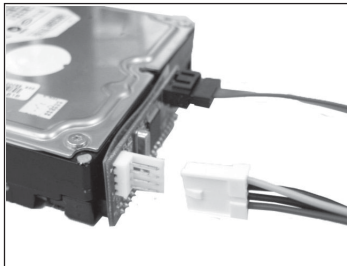

**Figure 4**
5. Connect the SATA data cable to the *SATA-to-IDE Adapter*, refer to **Figure 4** and **5**.